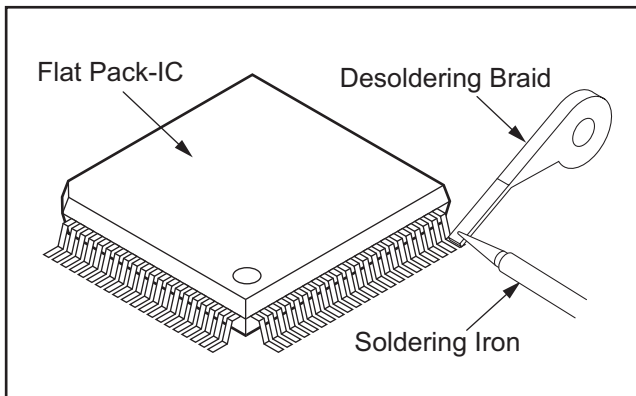

Fig.3
- (1) Using desoldering braid, remove the solder from all pins of the flat pack-IC. When you use solder flux which is applied to all pins of the flat pack-IC, you can remove it easily. (Fig. 3)